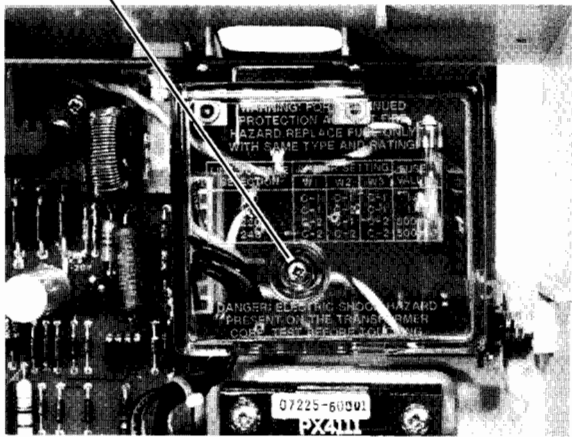

Figure 1-4. AC Shield Removal.
- c. Remove the AC shield. (See Figure 1-4.)